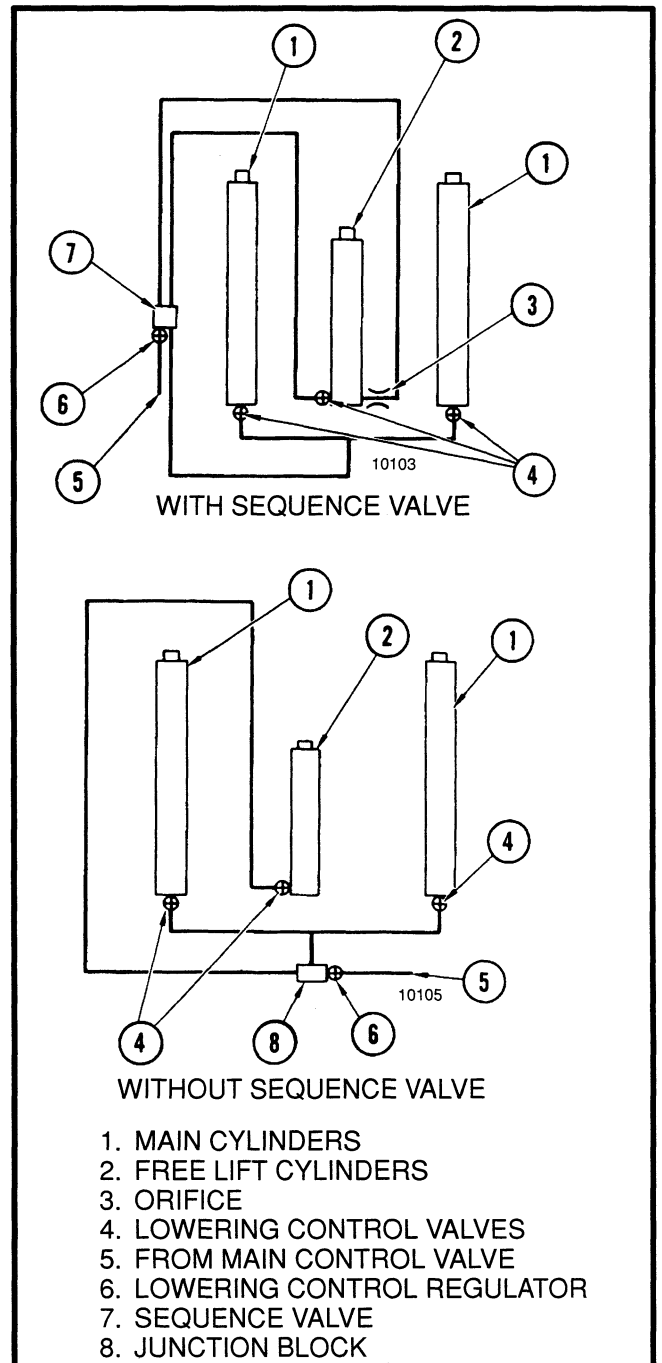

FIGURE 12. HYDRAULIC DIAGRAM - VISTA THREE-STAGE MAST
7. Install the free lift cylinder. Install the crosshead assembly to the free lift cylinder. Adjust the cylinder so that the cylinder shell is parallel to the sides of the inner weldment within 3.0 mm (0.12 in). Install the hydraulic lines to the free-lift cylinder. See FIGURE 12.